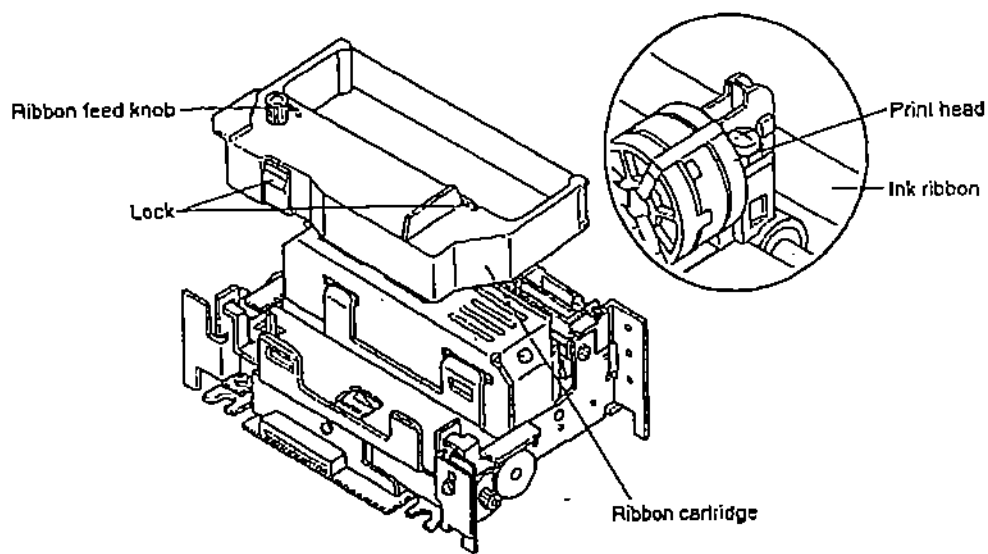

Fig. 5-1 Setting the ribbon cartridge
2. Place the ribbon cartridge as shown in Fig. 5-1, and press it to set in the Unit. When the ribbon cartridge is hard to set to the proper position, turn the ribbon feed knob in the direction of the arrow.